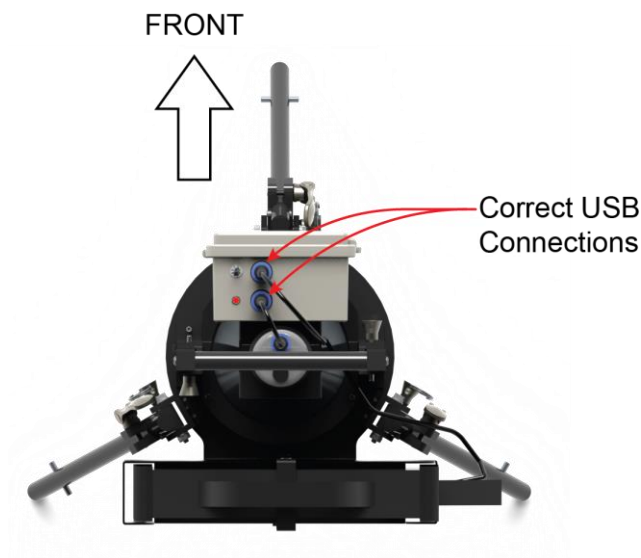

Figure 6. USB connections.
5. Ensure that the USB cables are connected properly to the enclosure (Figure 6). However, do not connect the USB cable to the tablet yet.